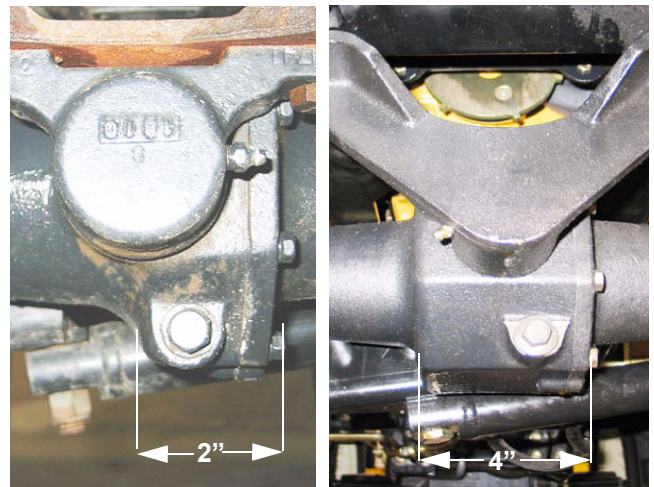

Figure 1.3
- 1.3. The Octagonal "pumpkin" is roughly 2" wide on the out-sourced MFD. It is roughly 4" wide on the Cub Cadet MFD. See Figure 1.3.